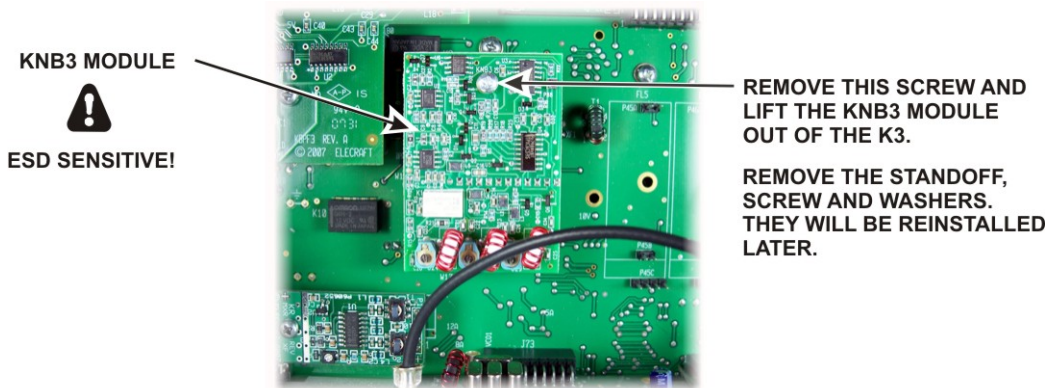

Figure 5. Removing the KNB3 Module.
- Remove the KNB3 module, the standoff, screw and washers from the RF board (see Figure 5). They will be reinstalled later.
Replace the standoff and the KNB3 module you removed earlier (see Figure 5). When mounting the standoff on the RF board, be sure to place one lock washer under the screw head on the bottom of the board, and two lock washers between the standoff and the top of the board. A fourth lock washer goes under the screw holding the KNB3 module itself.